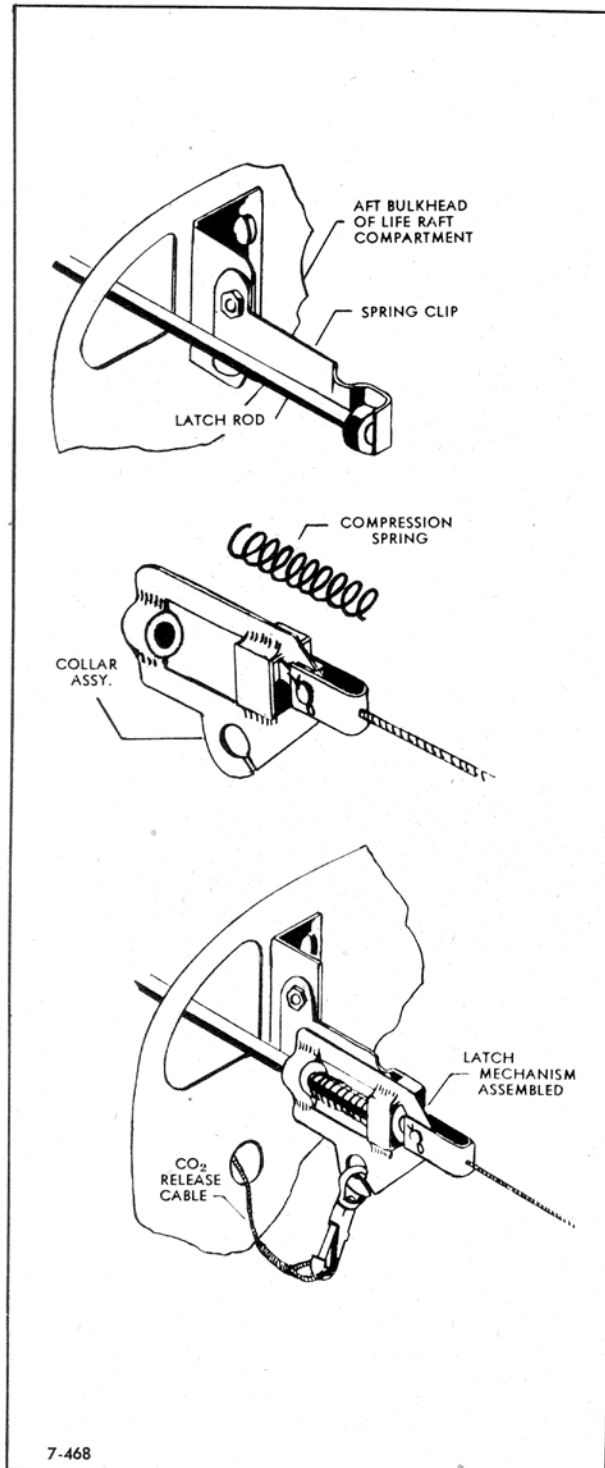

Figure 341—Latch Mechanism
c. A spring clip bolted to the aft bulkhead of the compartment hooks around the end of the latch rod to hold the rod forward. The clip is held to the rod by the collar assembly and the compression spring (figure 341).
b. Detach the CO2 release cable from the latch mechanism (figure 341).
in figure 341. Pull collar assembly aft and place spring clip over aft end of latch rod. Push collar assembly forward so that collar encloses spring clip and latch rod.